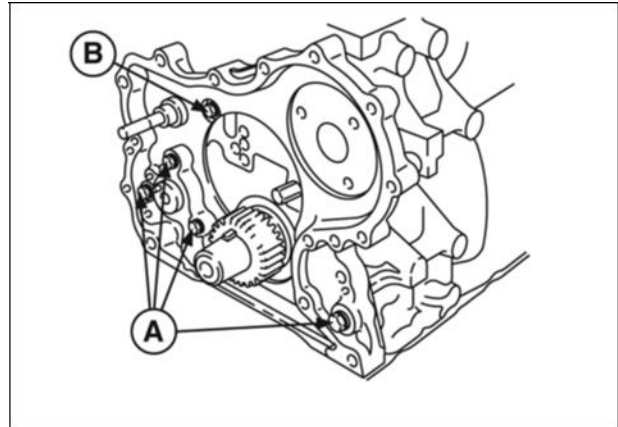

Figure 11
2. Install timing gear case with new gasket (Figure 11). It may be necessary to rotate oil pump drive to engage oil pump rotors.
- M6 x 1.1 in. (M6 x 28mm): 4 (A).
- M6 x 1.5 in. (M6 x 16mm): 1 (B).